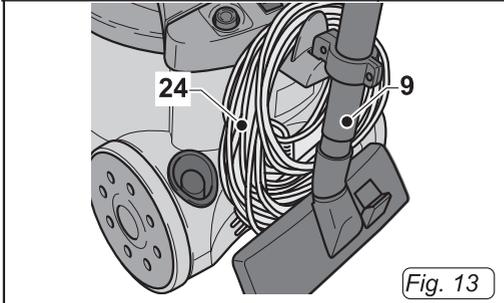

Fig. 13
- Wind up the cable (24 Fig. 13) and hook it in position then couple the tube (9 Fig. 13) to the joint.